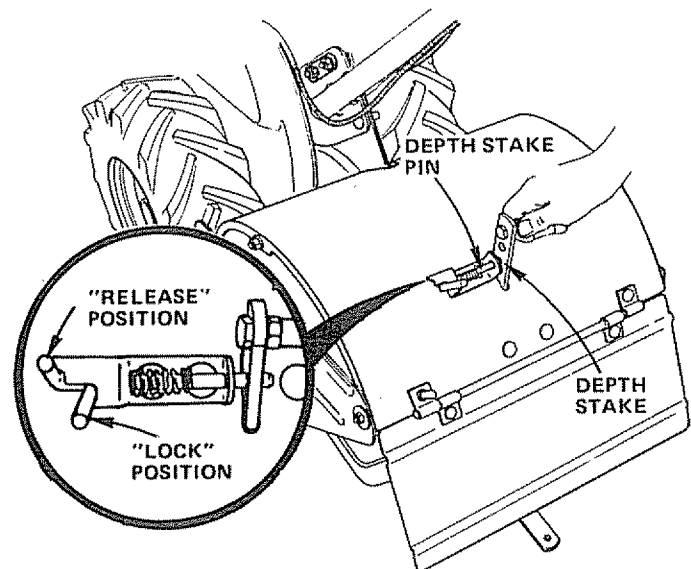

FIGURE 15
- Release the Depth Stake Pin (Fig. 15). Move the Depth Stake down to the top hole for transporting the Tiller. This prevents Tines from scuffing the ground. Place Depth Stake Pin in hole of Depth Stake to lock in position (Fig. 15).